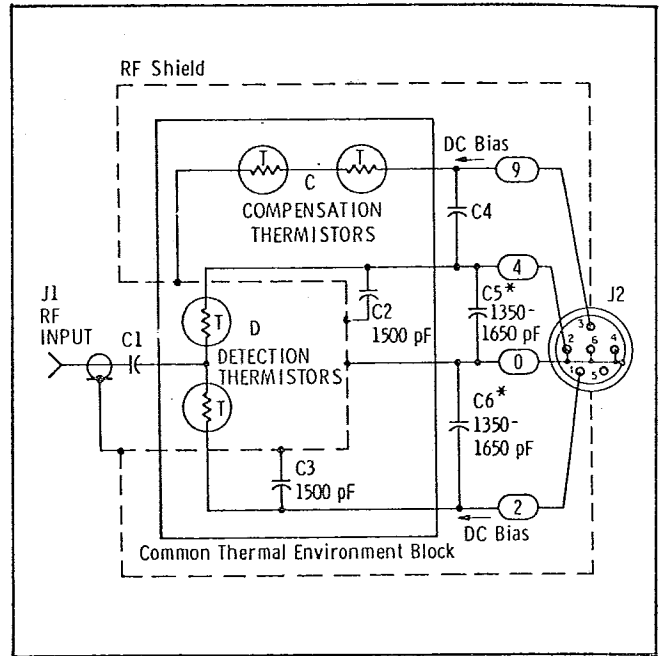

Figure 5. 8478B Connected to a 432A Power Meter
65. Under normal operation, the total power applied to heat thermistor pair "D" (see Figure 5) consists of: 1) RF signal, 2) heat from the environment, and 3) dc bias. The total power supplied to heat thermistor "C" consists of: 1) dc